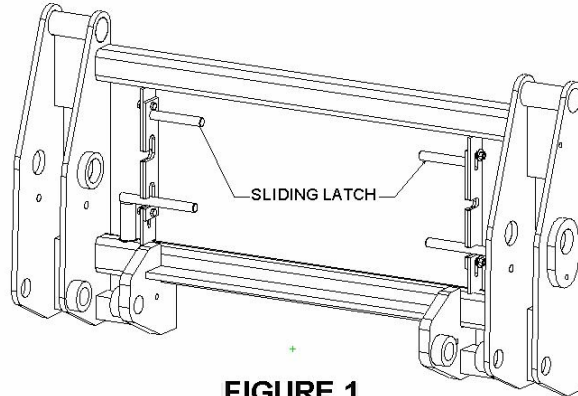

FIGURE 1.
STEP 1 Attach the front mount to the tractor. Any weight brackets, tool boxes or other items that will interfere with the loader must be removed at this time. Tighten front mount bolts securely. See Fig. 1
STEP 1 Approach the loader as shown in Figure 1 and connect the hydraulic hoses.
STEP 1 *DRIVE THE TRACTOR TO FIRM, EVEN GROUND* and place the loader in the position shown in Fig 1.
1. Raise sliding latches as shown in Figure 1.
3. Rotate QT pins out of the upper notches, lower, and then rotate them into the lower notches on the sliding latches as shown in Figure 1. **NOTE:** If the QT pins do not easily slide thru the lug on the attachment, do not force them. Simply rotate the attachment back and forth slowly with the bucket cylinders of the loader and the QT pins should fall into place. Periodically grease the QT pins and sliding latches.